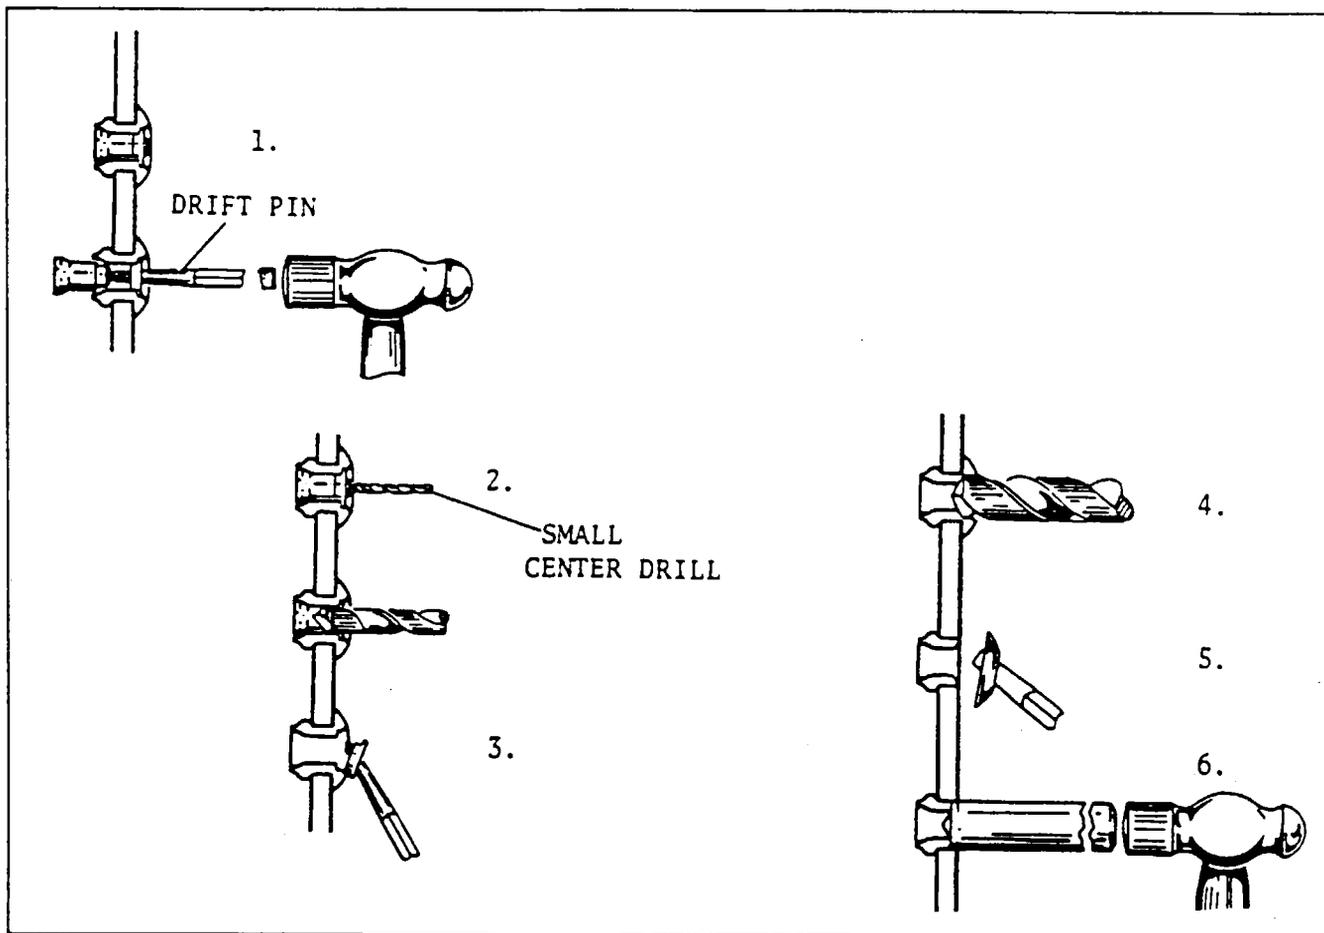

Figure 20-3 Cherrylock Rivet Removal
**CHERRYLOCK RIVETS. REMOVAL.** (Refer to Figure 20-3)